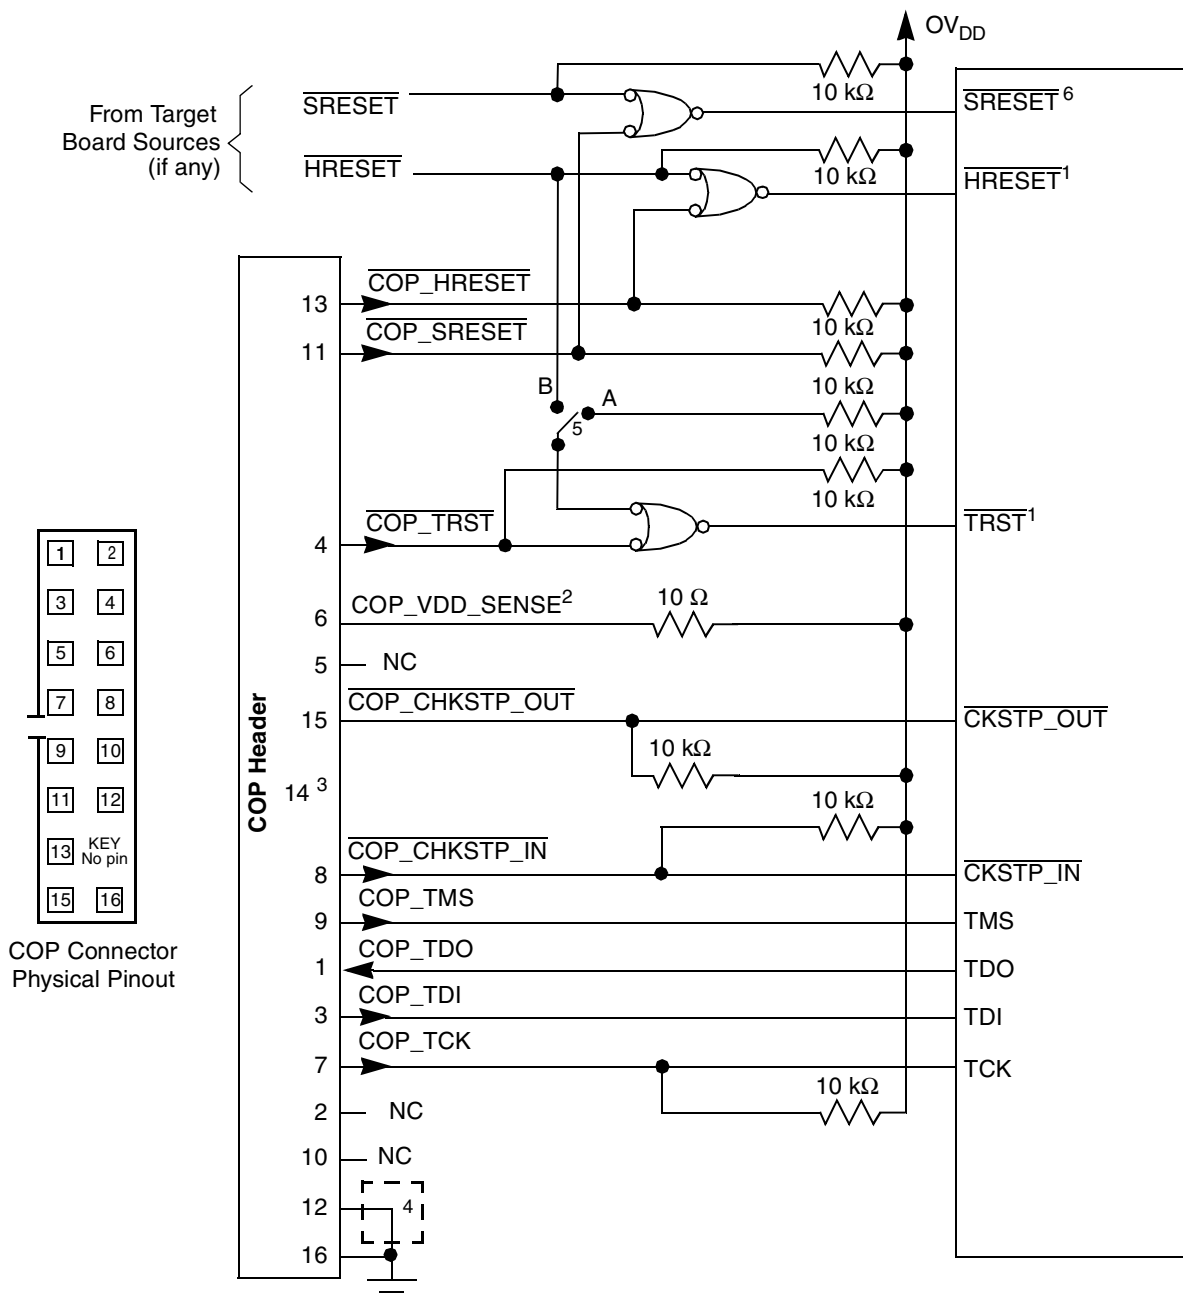

Figure 12. JTAG Interface Connection
Correct operation of the JTAG interface requires the configuration of a group of system control pins as demonstrated in Figure 12. Care must be taken to ensure that these pins are maintained at a valid de-asserted state under normal operating conditions as most have asynchronous behavior and spurious assertion gives unpredictable results.
The arrangement shown in Figure 12 allows the COP port to independently assert $\overline{\text{HRESET}}$ or $\overline{\text{TRST}}$ while ensuring that the target can drive $\overline{\text{HRESET}}$ as well.
- $\overline{\text{TRST}}$ should be tied to $\overline{\text{HRESET}}$ through a 0 k Ω isolation resistor so that it is asserted when the system reset signal ($\overline{\text{HRESET}}$) is asserted, ensuring that the JTAG scan chain is initialized during the power-on reset flow. Freescale recommends that the COP header be designed into the system as shown in Figure 12. If this is not possible, the isolation resistor allows future access to $\overline{\text{TRST}}$ in case a JTAG interface may need to be wired onto the system in future debug situations.
1.	Connect the JTAG pins to the COP header as shown in Figure 12.
$\overline{\text{HRESET}}$	Pull high through a 2–10 k Ω resistor to OV_{DD} . Connect to Pin13 of the COP connector (refer to Figure 12).